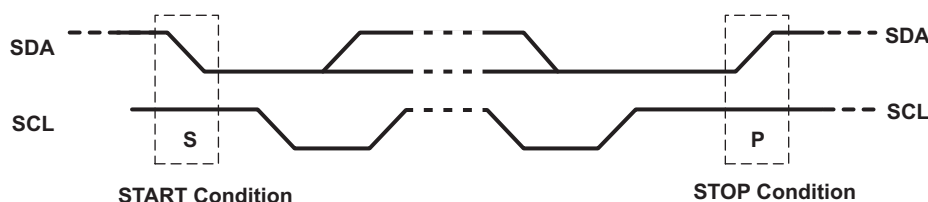

Figure 6. Definition of Start and Stop Conditions
Both data and clock lines remain high when the bus is not busy. A high-to-low transition of the data line while the clock is high is defined as the start condition (S). A low-to-high transition of the data line while the clock is high is defined as the stop condition (P) (see Figure 6).